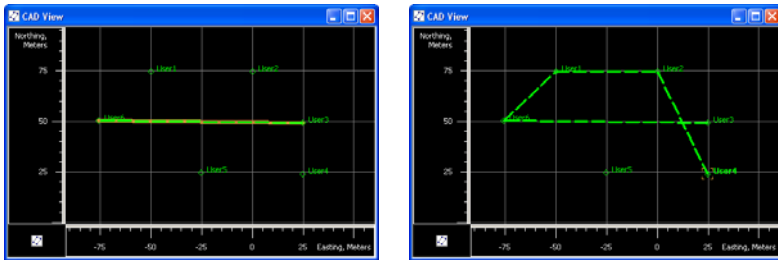

Figure 5-29. Appends Points to Line
3. Click a point on the CAD view to append it to the line. The point will display in the right panel of the *Linework* tab (Figure 5-29) for the line selected in the left panel.
4. Click another point to append to the line. The vertexes of the line will display in the right panel of the *Linework* tab (Figure 5-29). Repeat step 4 to append more points to the line. To create a closed figure append the finish point to the last segment and the start point of the first segment to the line.